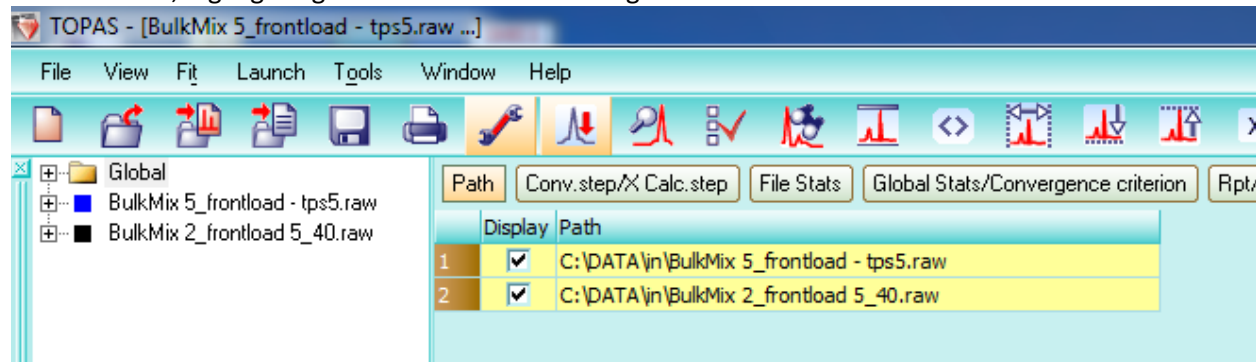

Figure 16. Add STR files to multiple scans at once
1. In the Parameter Window select 'Global'. Then in the display window hit 'ctrl' and select your scans, highlighting them as seen below in Figure 16.